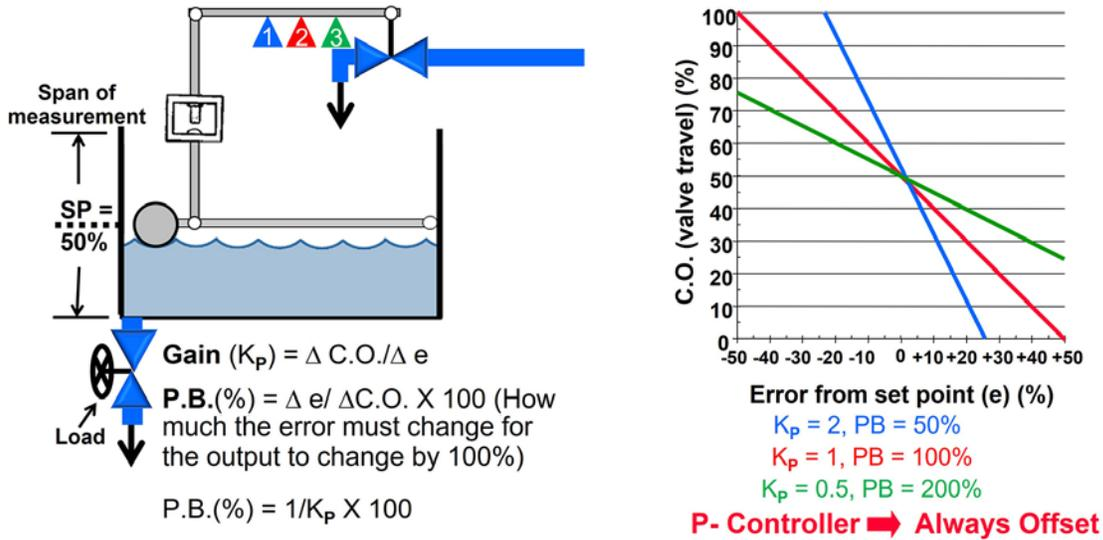

Figure 1. Proportional only controller.
The basic control mode is “proportional,” which “uses error to reduce error.” The diagram in Figure 1 illustrates how proportional functions. Shown is a mechanical proportional controller consisting of a float that operates a valve to maintain the level at the desired setpoint (SP) of 50 percent.